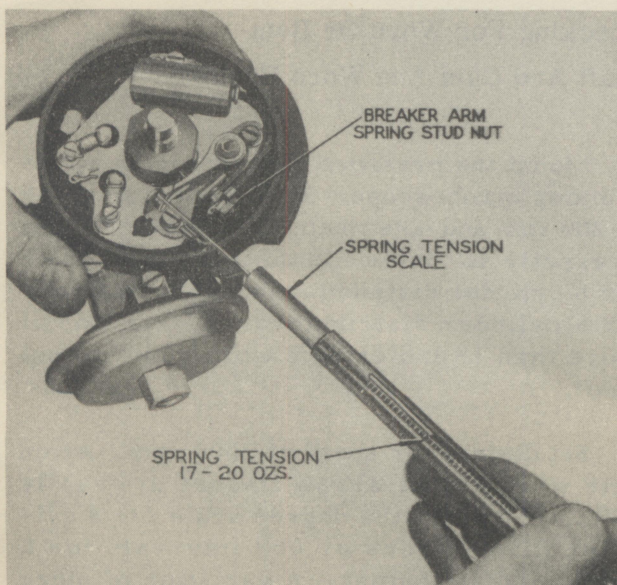

Fig. 14
2. Check the breaker arm spring tension with a spring scale. It should be 17-20 ozs. (Fig. 14). If adjustment of spring tension is necessary, loosen the first breaker arm spring stud nut which secures the condenser wire and primary wire. Loosen the breaker arm spring stud nut to allow the spring to ride back and forth on the breaker arm post through the adjustment slot in the spring. The tension can then be increased by tightening the spring and decreased by loosening the spring. When proper tension is obtained, tighten the two breaker arm spring stud nuts.